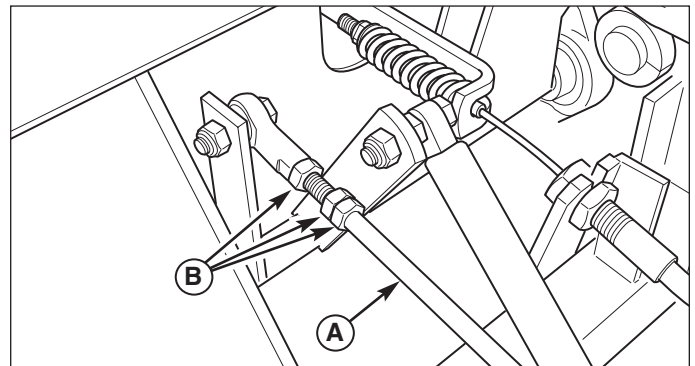

Figure 29. Neutral Adjustment
2. There are three (3) nuts on the linkage rod. The first two are to be used together to turn the rod and the third (towards the front of the machine) is used to lock the rod in place. Loosen the jam nut that locks against the ball joint (B, Figure 29) and turn the linkage rod (A) to adjust. If the machine creeps forward, turn the rod CLOCKWISE (while standing at the rear of the machine, facing forward), if the machine creeps backward, turn the rod COUNTER-CLOCKWISE.
3. Lock the jam nut (B) against the ball joint when neutral is achieved.